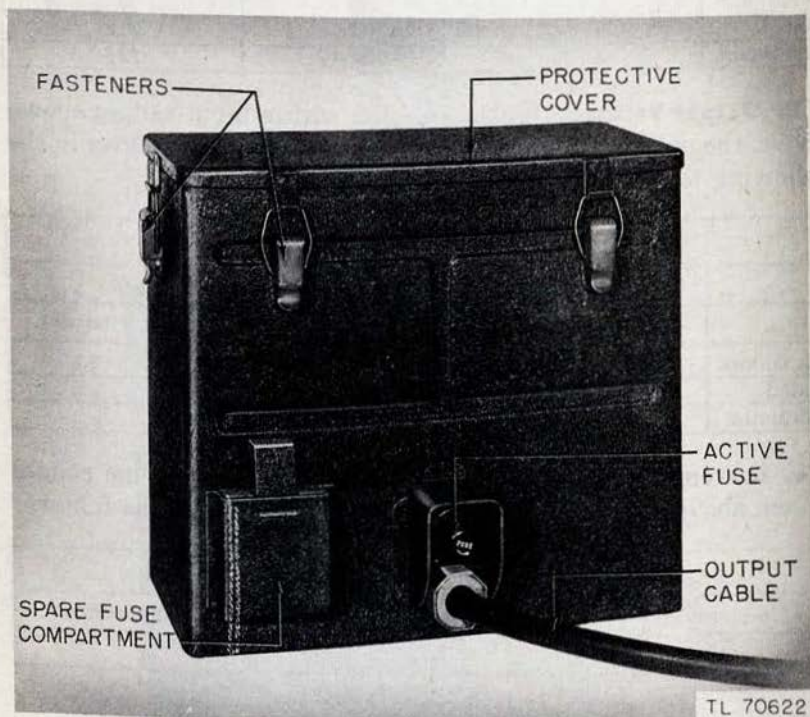

Figure 2. Vibrator Power Supply PP-114/VRC-3, back view.
b. The fuse is mounted in a holder directly above the input cable entrance; spare fuses are in a compartment mounted on the back of the outer case (fig. 2). All other electrical components are mounted on the chassis as shown in figures 5, 17, 18, and 19.
d. The power supply is shipped with a metal cover as shown in figure 2. The cover is used to protect the power supply during shipment.